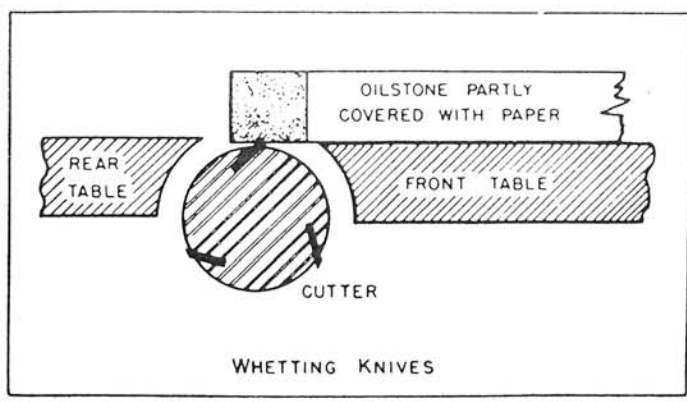

Fig. 17
2. Use a fine carborundum stone and cover it partly with paper to avoid marking the table, as shown in Fig. 17.
3. Lay the stone on the front table, lower the table and turn the cutterhead forward until the stone lies flat on the bevel of the knife, as shown in Fig. 17.